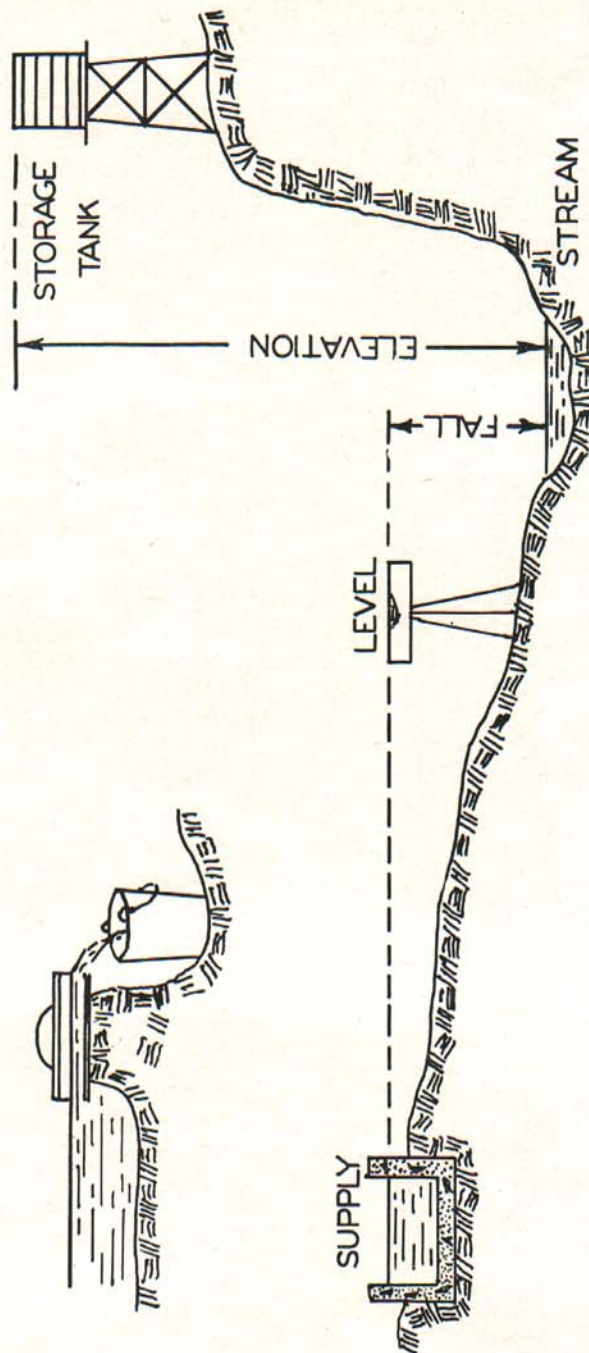

Fig. 3. (upper left) Measuring the water supply. (lower) Measuring the fall of the water.
In measuring the supply of water from a spring or small stream, build a small earthen dam with a tile or stove pipe for the water to run through and determine the number of seconds required to fill a pail or tub of known capacity. Then figure the quantity that would flow in a minute. (Fig. 3.) Streams generally carry less water during the hot months, and the measurement should be made during this period if possible. Streams too large or swift to measure conveniently can be assumed to have sufficient supply for operating the ordinary sizes of rams.
Having determined the supply of water sufficient for operating a ram, select a place for the ram not closer than 30 feet nor farther than 200 feet from the supply which will give the greatest amount of fall from the top of the water to the ram and still have drainage for the waste water. Measure this fall carefully using a level as shown in Fig. 3. The elevation to which the water must be raised can be measured in a similar way.
1. The quantity of water available in gallons per minute at the source of supply. This may be learned by observing the time required to fill a vessel of known capacity. (Fig. 3.)
2. Vertical fall in feet from supply to ram. This may be determined by using a carpenter's level. (Fig. 3.)